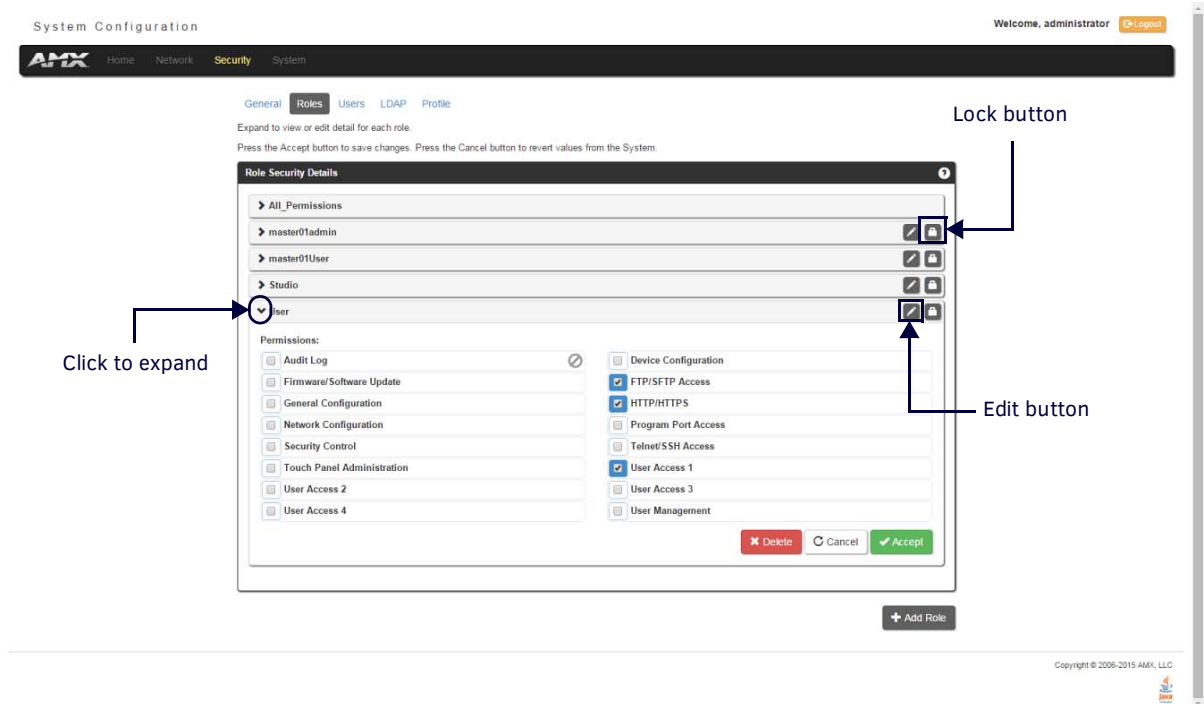

FIG. 41 Role Security Details Page
Click any Role listed on the *Role Security Details* page to expand the view to show details for the selected user Role (FIG. 41):
2. Click the **Edit** button (see FIG. 41) for any Role listed on the *Role Security Details* page to expand the view to show details for the selected Role.
2. Click the **Lock** button (see FIG. 41) for any Role listed on the *Role Security Details* page to lock and disable the Role. Click the Lock button again to unlock and enable the Role